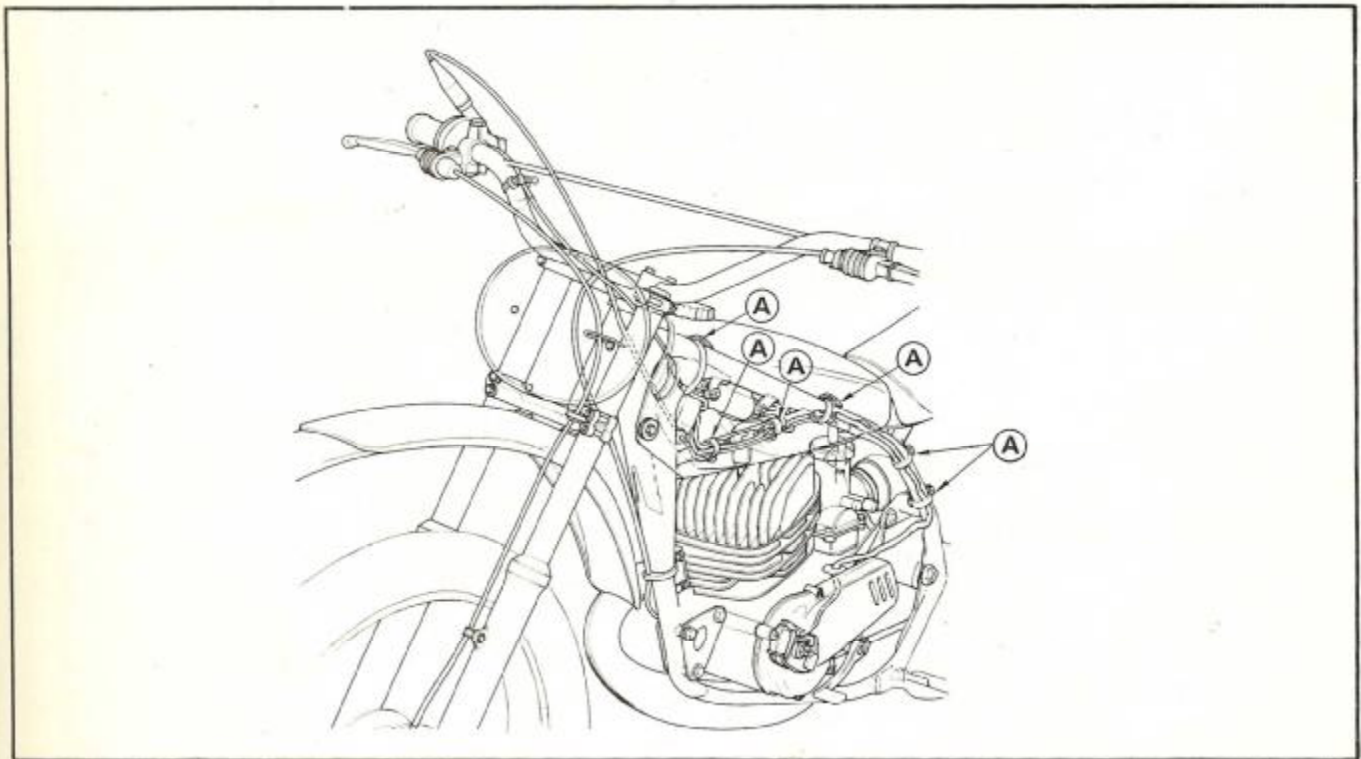

Fig. 5-1
Connect wiring and cables to the frame with the clamps at position (A) in Fig. 5-1.